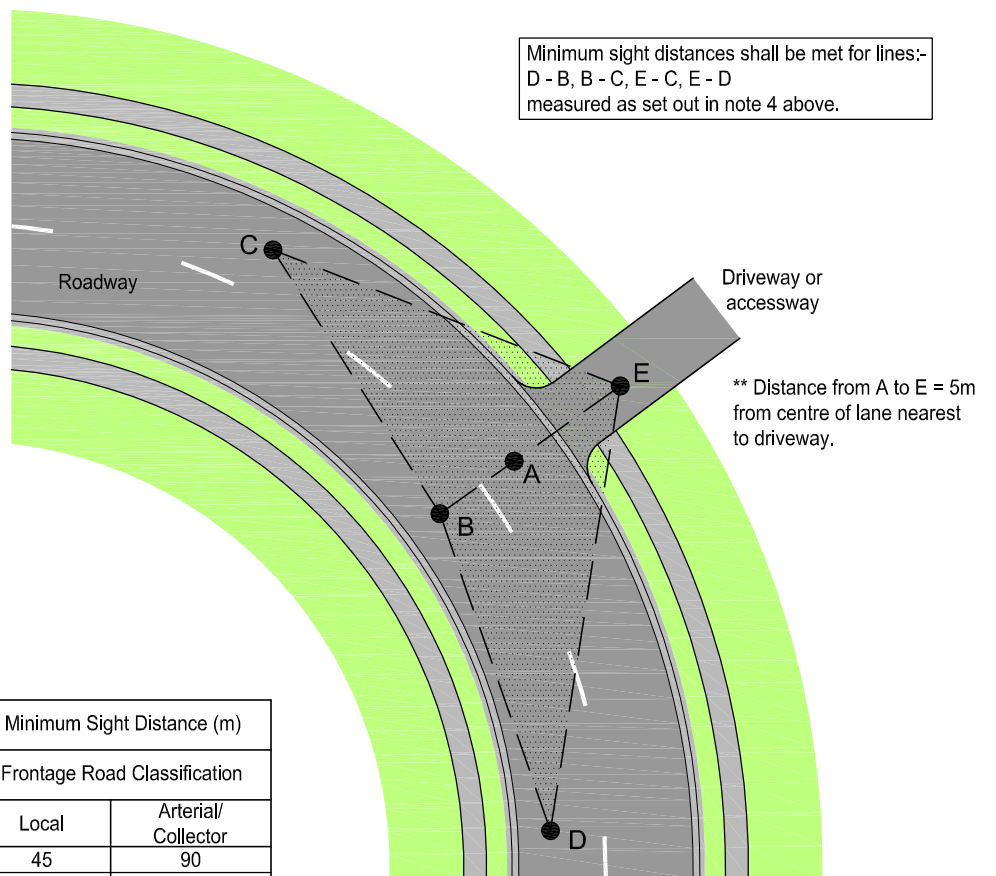

FIGURE 1
2. These sight distances to be measured along the centre of the appropriate lane to establish points C and D in figure 1. For practical purposes A and B can be taken as opposite the centre of the driveway.